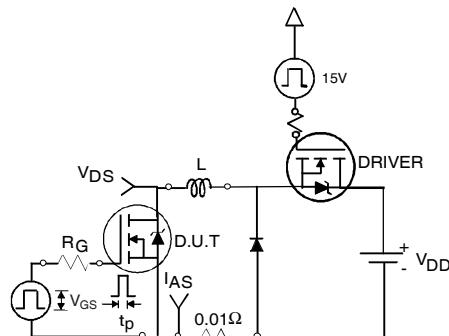

Fig 21a. Unclamped Inductive Test Circuit
3. Equation below based on circuit and waveforms shown in Figures 21a, 21b.